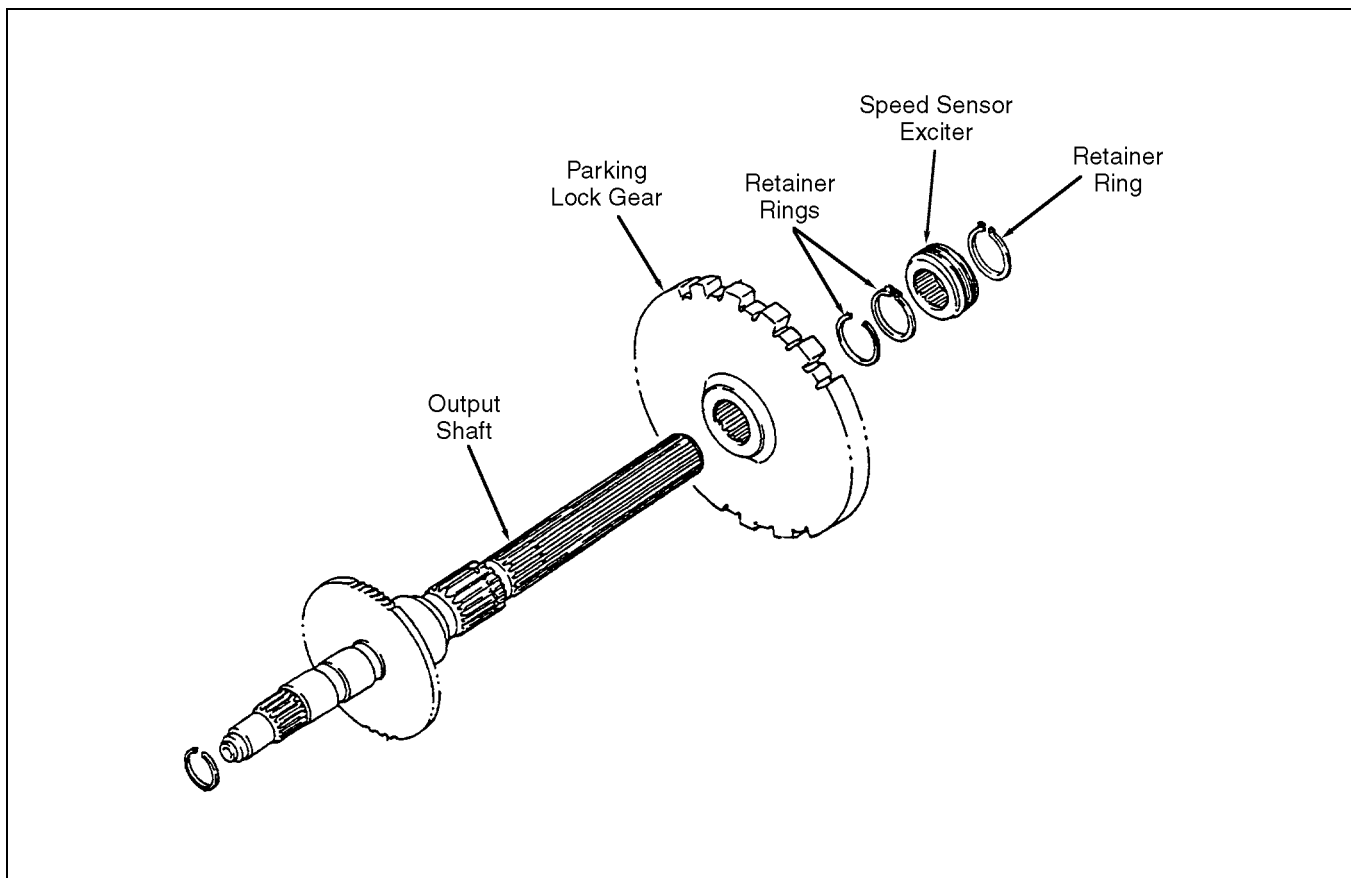

Figure 4J-6. Speed Sensor Exciter, Parking Lock Gear and Output Shaft
2. Replace damaged components and reassemble as shown in Figure 4J-6.